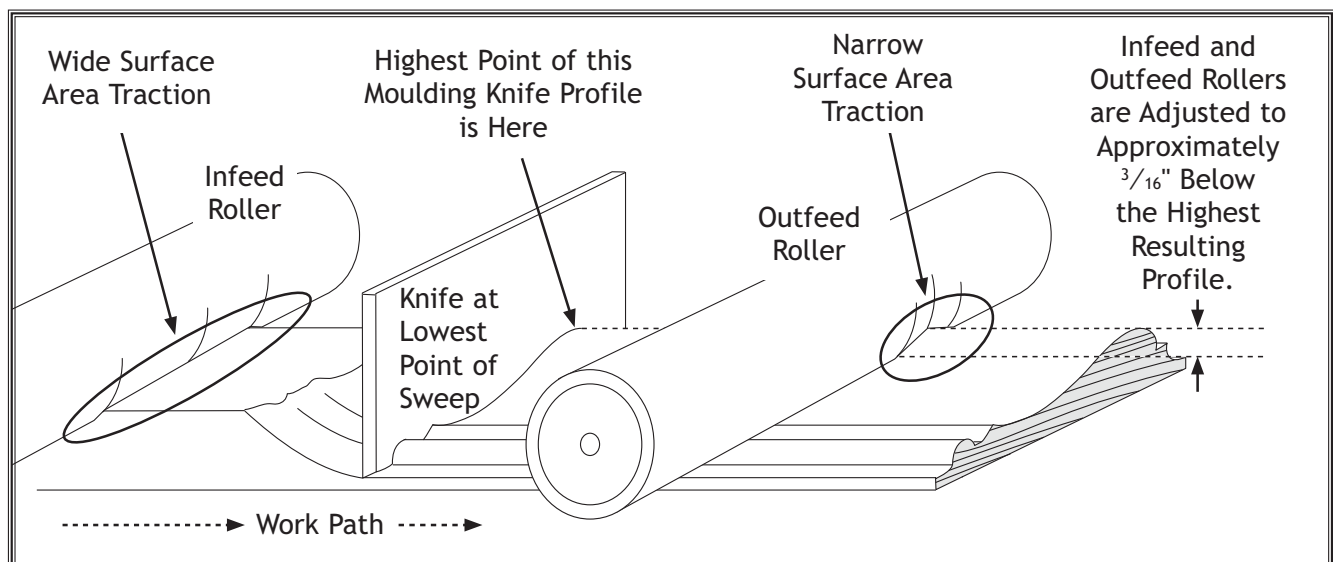

Figure 27. Feed roller height concept for moulding knife use.
- For moulding, lower the roller so it is approximately  $\frac{3}{16}$ " below the highest point of the moulding knife profile. Refer to **Figure 27** to study and find the highest point of the moulding knife profile when the knife is at the lowest point of its sweep.